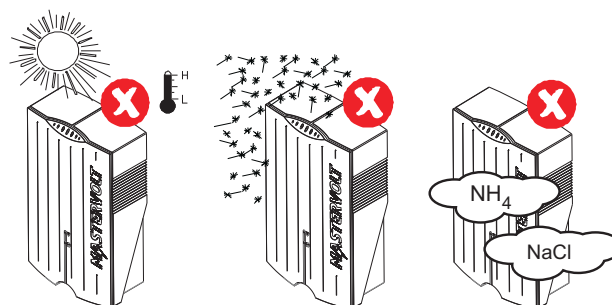

Figure 4-3
- Do not expose the Soladin to direct sunlight or other heat sources (Figure 4-3).
- Do not expose the Soladin to excessive dust (Figure 4-3).
- Do not expose the Soladin to aggressive environments, ammonia or salt (Figure 4-3).